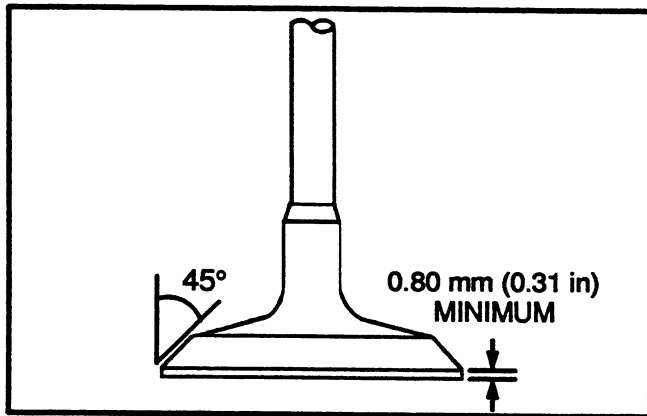

FIGURE 10. VALVE HEAD MEASUREMENTS
- Any wear or damage to the valve face cannot be removed by resurfacing and still meet the specifications shown in FIGURE 10.